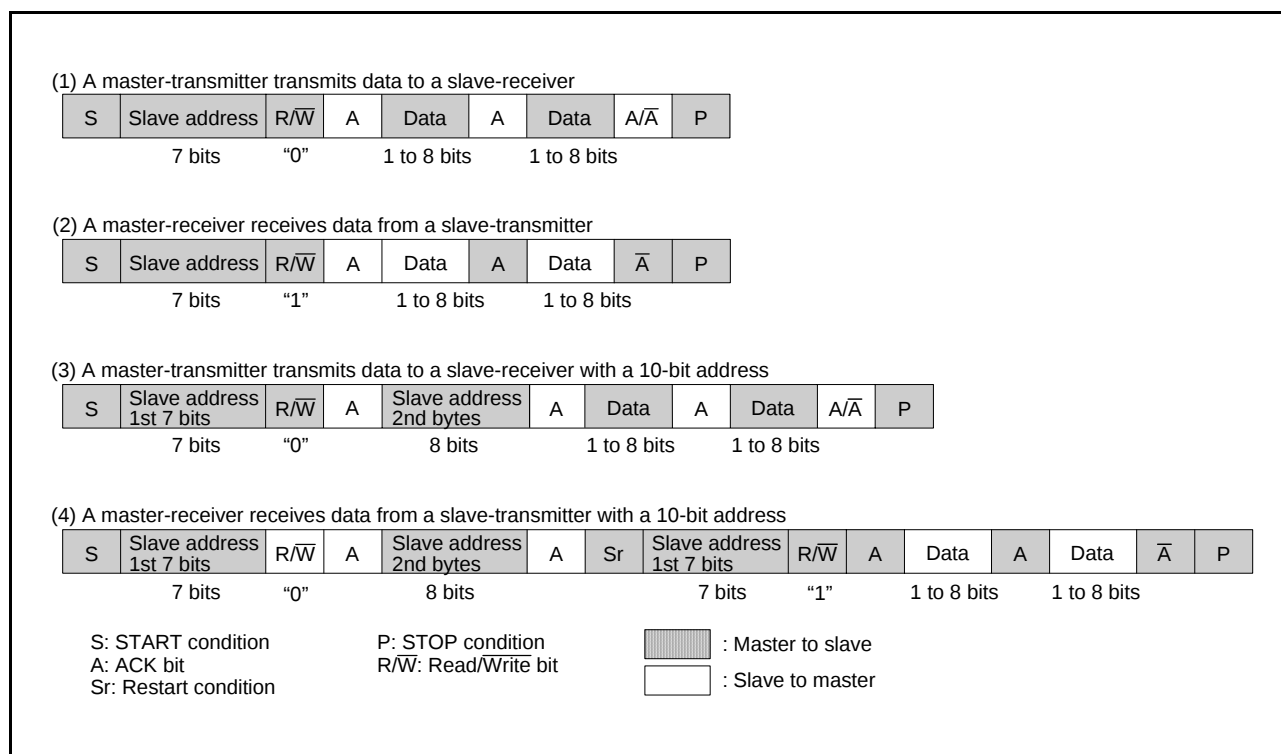

Fig. 73 Address data communication format
To adapt the 7-bit addressing format, set the 10BIT SAD bit of the I²C control register (S1D: address 0014₁₆) to “0”. The first 7-bit address data transmitted from the master is compared with the high-order 7-bit slave address stored in the I²C slave address register. At the time of this comparison, address comparison of the RWB bit of the I²C slave address register is not performed. For the data transmission format when the 7-bit addressing format is selected, refer to Figure 73, (1) and (2).
When the first-byte address data agree with the slave address, the AAS bit of the I²C status register (S1: address 0013₁₆) is set to “1”. After the second-byte address data is stored into the I²C data shift register (S0: address 0011₁₆), perform an address comparison between the second-byte data and the slave address by software. When the address data of the 2 bytes agree with the slave address, set the RWB bit of the I²C slave address register to “1” by software. This processing can make the 7-bit slave address and R/ $\overline{W}$ data agree, which are received after a RESTART condition is detected, with the value of the I²C slave address register. For the data transmission format when the 10-bit addressing format is selected, refer to Figure 73, (3) and (4).